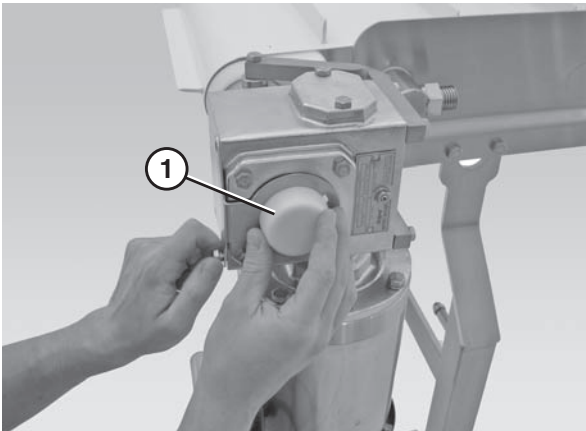

Figure 34
3. Remove the gearmotor cover (Figure 34, item 1).